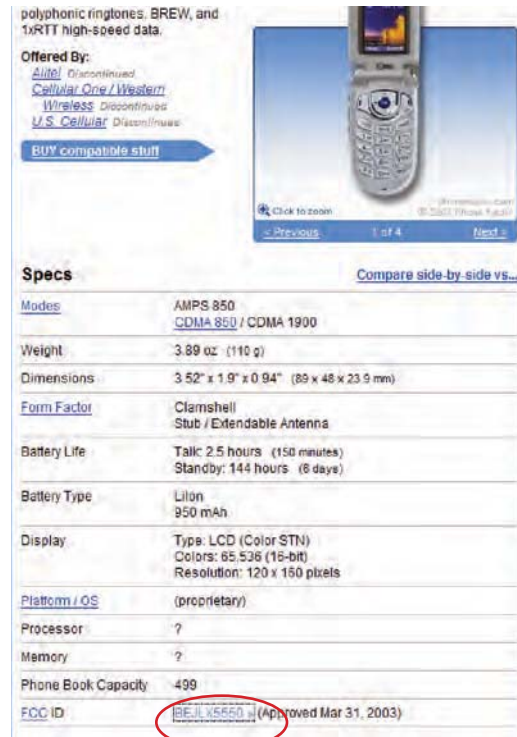

Figure 2. Locate Device Model
STEP 14: From Phone Scoop, locate and download the manual for the device, as shown in Figures 2 and 3. For the manual you require, scroll down to the FCC ID field and click on the device model, as shown in Figure 2.